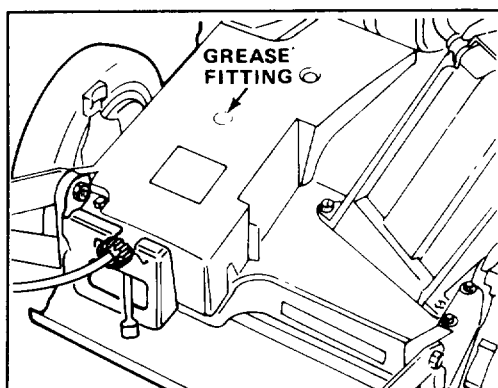

Figure 24
2. Install grease gun onto fitting thru belt cover opening (Fig. 24). Gently apply 1-2 pumps of grease.